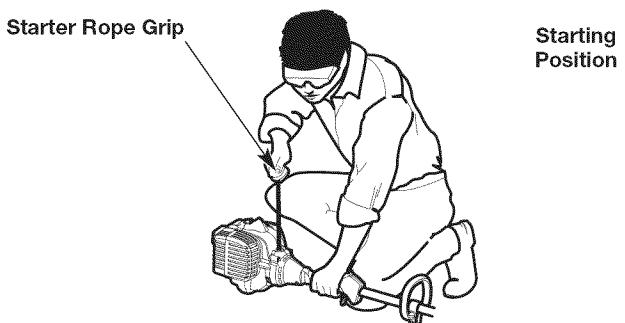

Fig. 8
**WARNING:** Avoid accidentally starting the unit. To avoid serious injury, the operator and the unit must be in a stable position when pulling the starter rope (Fig. 8).
6. **DO NOT** squeeze the throttle control. Crouch in the starting position (Fig. 8).
7. **DO NOT** squeeze the throttle control. Pull the starter rope with a controlled and steady motion until the unit starts (Fig. 8).